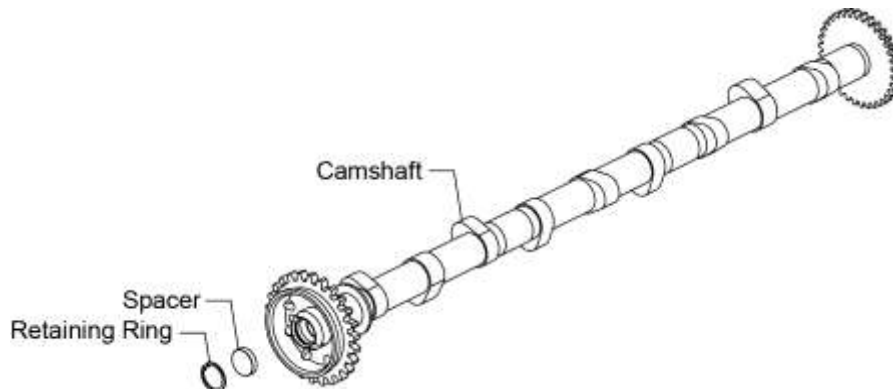

Figure 82
1. Install a new spacer and retaining ring (Figure 82) on the camshaft assembly.